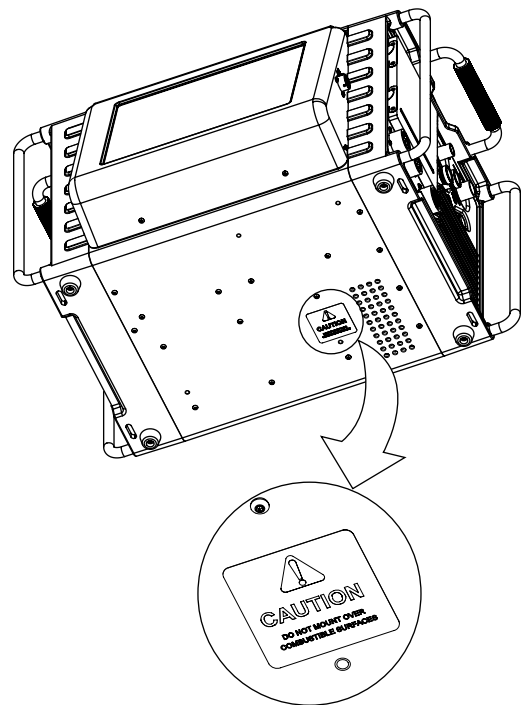

Fig. 1—M200 Power Supply Mounting Caution Label
- Do not place the M200 power supply over a combustible surface. See the label on the bottom of the M200 power supply (Fig. 1).